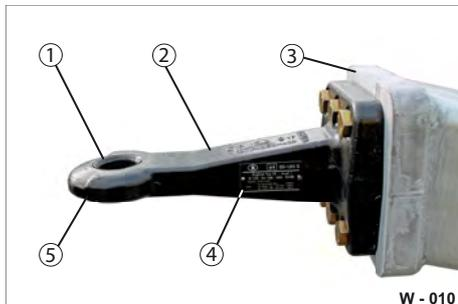
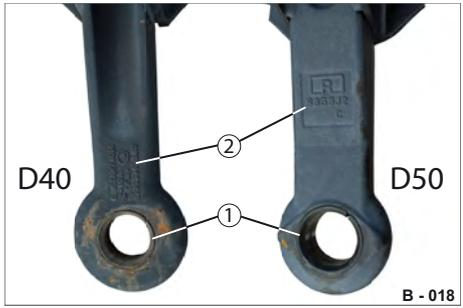

Fig. 10 Lubricating the towing eye
Fig. 13 Lubricating towing eyes/wear inspection
- ▶ Clean the wear bushing (Fig. 10/1) and the towing eye (Fig. 10/2) with a clean, dry cloth.
- ▶ Lubricate the wear bushing (Fig. 10/1) and the rounded area of the towing eye (Fig. 13/2) with long-term high-pressure grease.